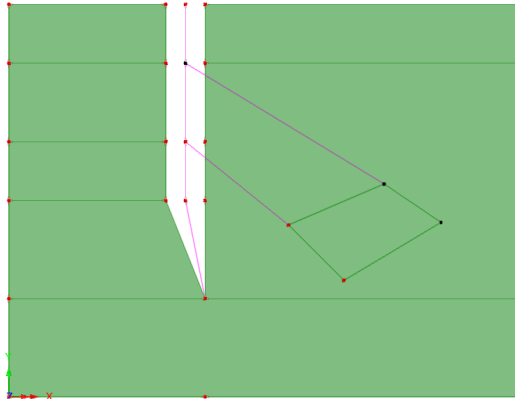

Figure 11: Lines defining wall and anchor rods
- Define the lines for the wall and anchor rods using **Geometry > Line > By Points...** (figure 11). Note the anchor rods are connected to the wall.